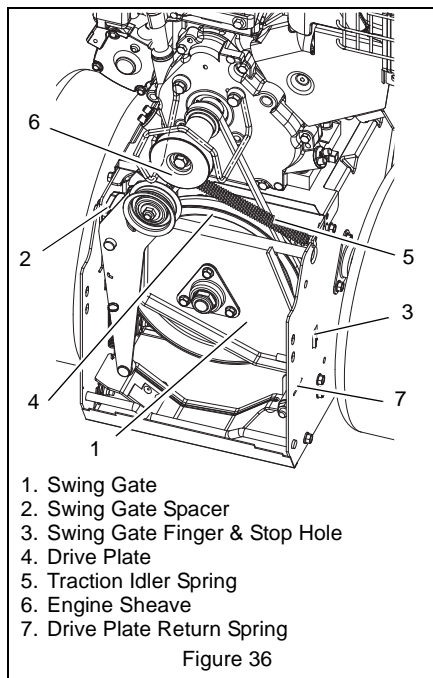

Figure 36
2. With traction clutch disengaged, check that swing gate finger touches the side of stop hole closest to auger housing (Figure 36).
(Figure 36)